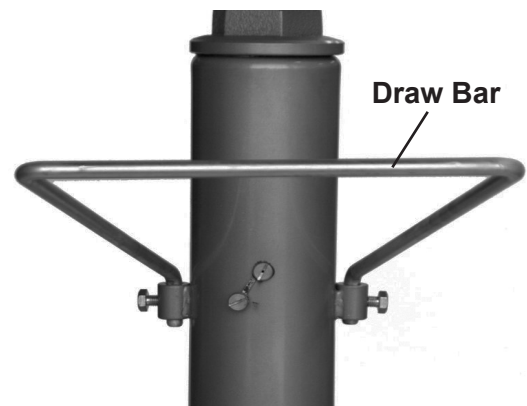

Figure 3
4. Insert the draw bar into its socket on the cylinder, and secure it with the hex bolts provided. See Figure 3.